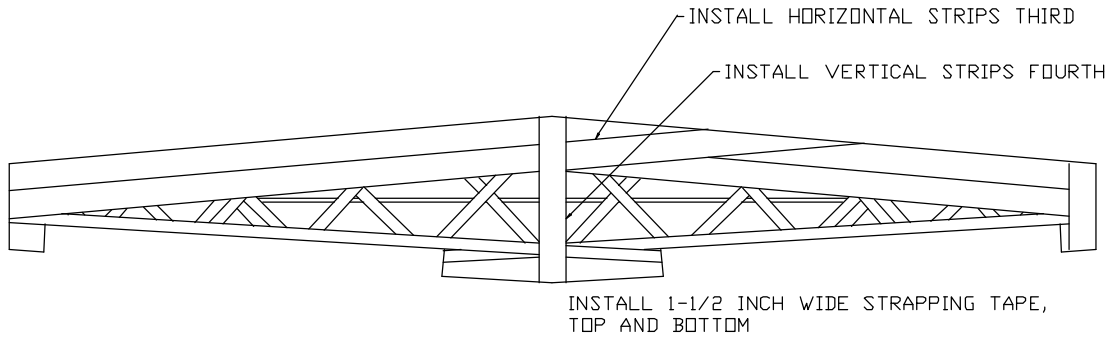

Figure 6
- ❑ Apply the 1-1/2” fiber reinforced strapping tape as shown in figure 6.
- ❑ The battery should be set as far forward as possible to avoid unnecessary nose weight. Cut out the section shown in figure 6 and fit the battery in.